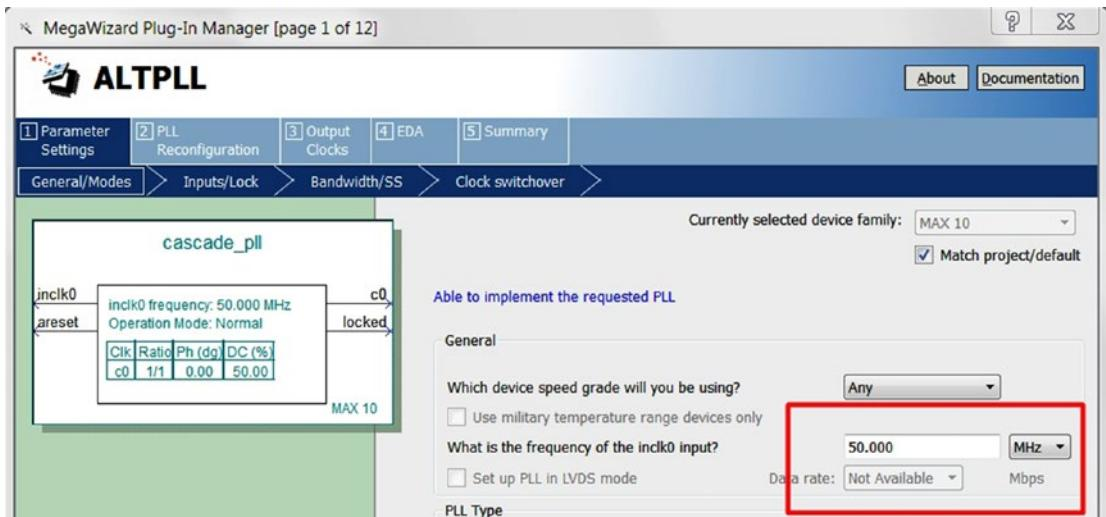
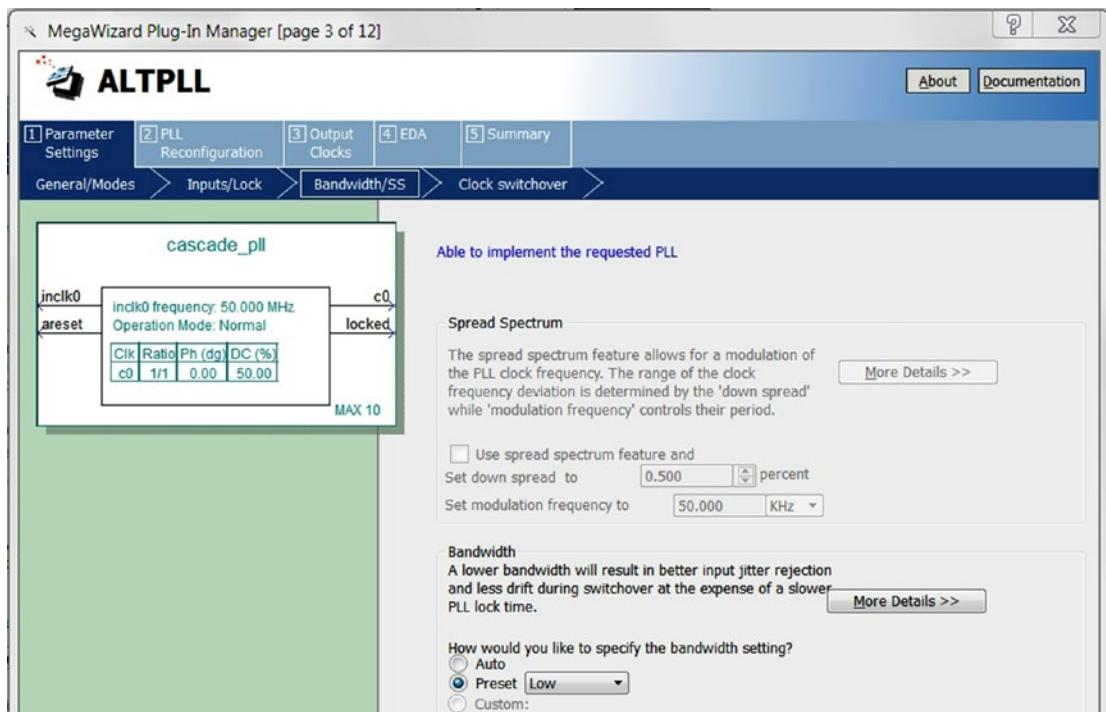

Figure 12-24. MegaWizard Plug-In Manager for Cascade IP—1
Figure 12-25. MegaWizard Plug-In Manager for Cascade IP—2
Step 2: A MegaWizard Plug-In Manager window will appear as Figure 12-24. Under the **1: Parameter Settings**, on the **General/Modes** tab, change the inclk0 input to **50 MHz** which is the on board clock frequency. On the **Bandwidth/SS** tab in Figure 12-25, change the Bandwidth Setting to **Preset Low**.